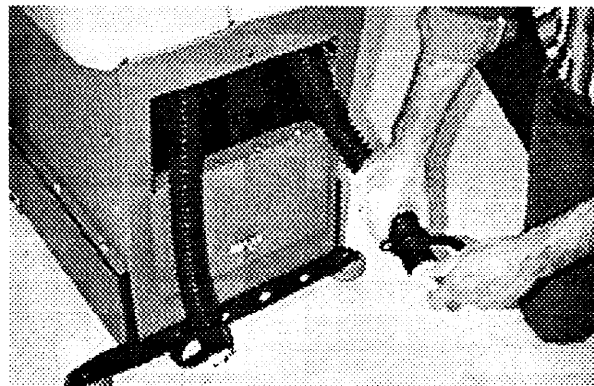

FIG. 15.
3. To drain tank, pull out the hose end, unscrew plug and drain. After draining tank replace plug and tighten. (*Figure 15*)